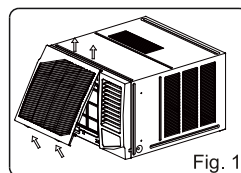

Fig. 1
2. Hold the slot under the front panel, then uplift it outwards, and remove the front panel (See Fig. 1)